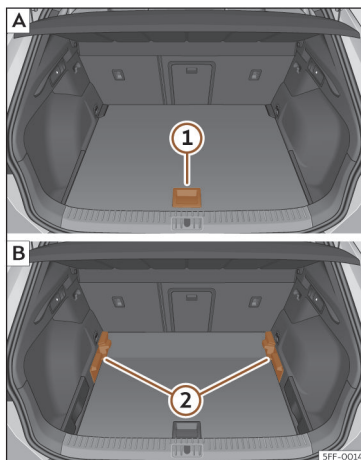

Fig. 187 Variable luggage compartment floor: **A** raised position; **B** lowered position.
- To move from the low position to the high position, lift the floor using the handle >>> **Fig. 187** (1), and pull it back until the front of the floor has fully passed the supports (2).
- Move the floor forward over the supports as far as the rear seat backrest and then lower the floor with the handle (1).
- To move from the high position to the low position, lift the floor using the handle >>> **Fig. 187** (1), and pull it back until the front of the floor has fully passed the supports (2).
- Now let the front part fall to the floor and slide the floor forwards as far as the rear seat backrest; lower the floor at the same time with the handle (1).
- Lift the variable floor in the high position using handle >>> Fig. 187 ①, pull it up and push it towards the backrest of the rear seats until it folds along the hinge line and the movable part of the floor is resting on itself.